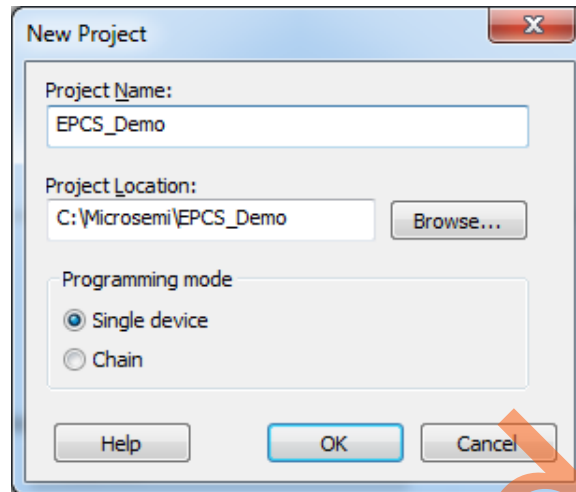

Figure 6 • New Project Window
5. In the **New Project** dialog box, type **EPCS_Demo** in the **Project Name** field, as shown in Figure 6.